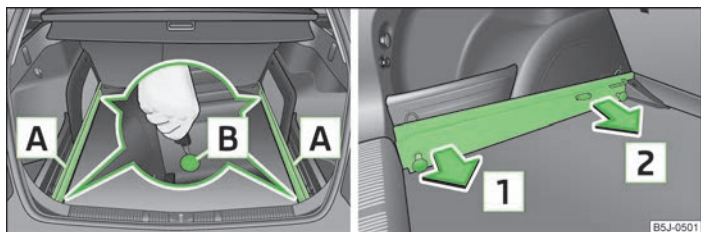

Fig. 52 Slacken check points/remove carrier rails
- › Slacken the check points **B** » Fig. 52 on the carrier rails using the vehicle key or a flat screwdriver.
- › Press both check points on each carrier rail **B** » Fig. 52 up to the stop.